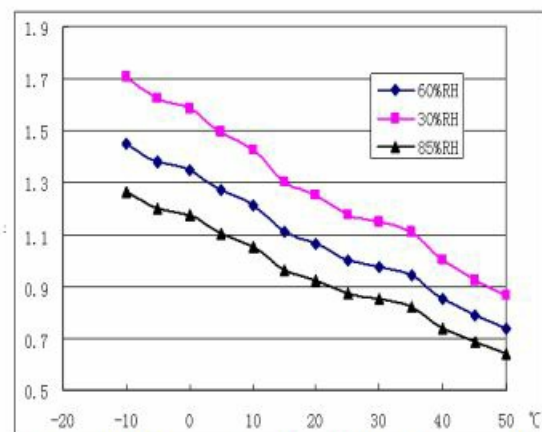

Fig4. Typical temperature/humidity characteristics
- **Fig4. Typical Temperature/Humidity Characteristics:** This graph shows the resistance ratio of the sensor (R_s/R_{so}). R_s represents the resistance of the sensor in 2000ppm propane (C_3H_8) under different temperature and humidity conditions, while R_{so} represents the resistance of the sensor in 2000ppm propane (C_3H_8) under 20/65%RH.